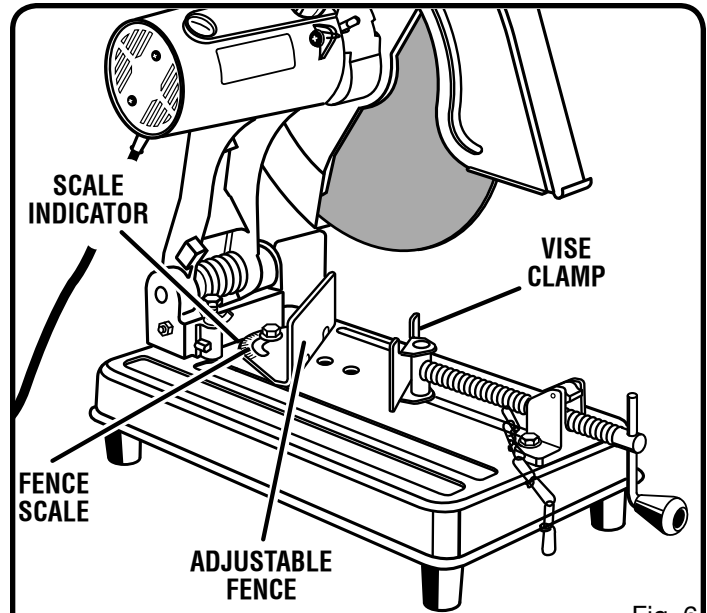

Fig. 6
See Figure 6.
See Figures 6 - 7.
- This will secure the fence in place at desired angle. See Figure 6.